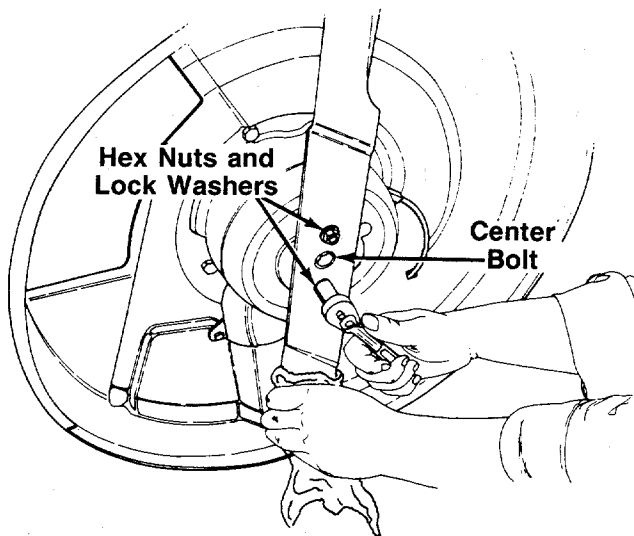

FIGURE 22.
To remove the cutting blade for sharpening or replacement, remove the two hex nuts and lock washers which hold the blade to the blade brake/clutch. Protect hands by using heavy gloves or a rag to grasp the cutting blade. See figure 22.
6. Remove the blade by removing two hex nuts and lock washers. Refer to figure 22.